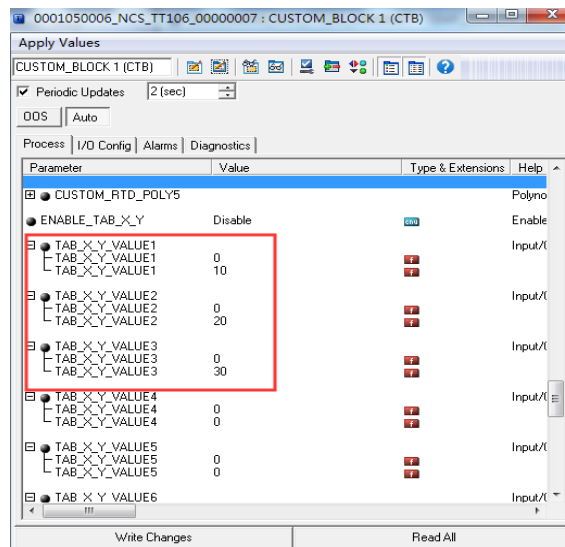

Figure 3.10 Calibration point configuration
- (1) The NCS-TT106F temperature transmitter provides 16 calibration point inputs, namely the TAB_X_Y_VALUE1-TAB_X_Y_VALUE16 array of parameters of the transducer block. The user can write the output values to be calibrated into the array in turn and select a good unit. For example, when performing three-point interpolation calibration, the user can select 10, 20, and 30 as calibration points, and write the three values in the second place in the TAB_X_Y_VALUE1, TAB_X_Y_VALUE2, and TAB_X_Y_VALUE3 arrays, as shown in Figure 3.10.